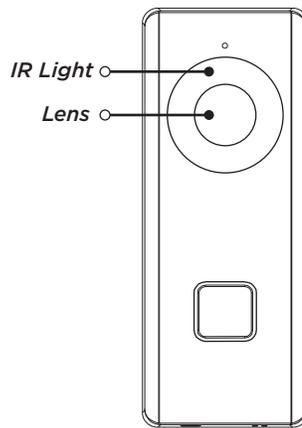

Figure 2: Lens and IR Light Location
1. Remove the clear plastic film on the lens of the camera and the clear plastic film on the IR light referenced in Figure 2.